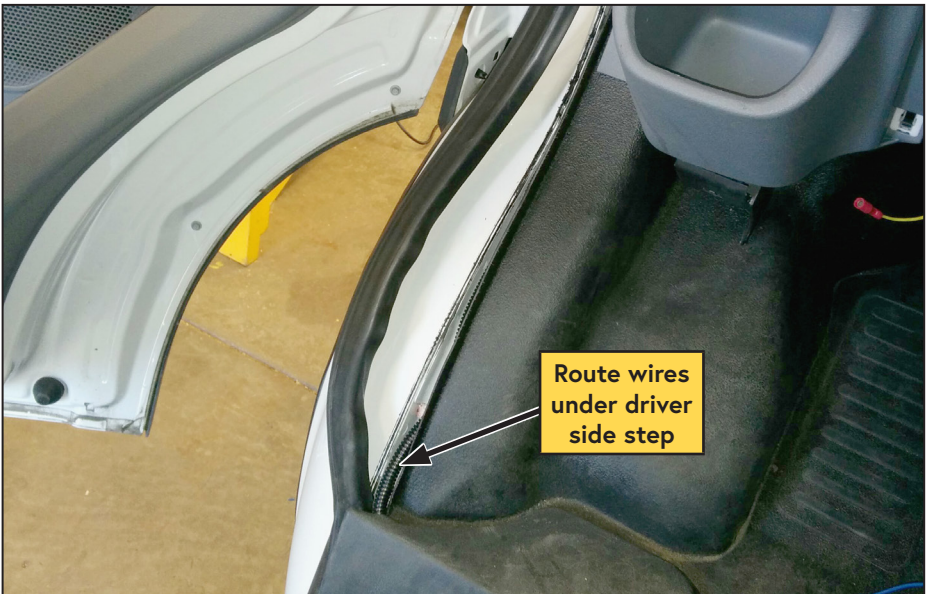

Figure 61 — Driver side step
- Route the loomed wires along the inside of the driver door and underneath the driver side step, towards the driver side seat support (Figure 61).